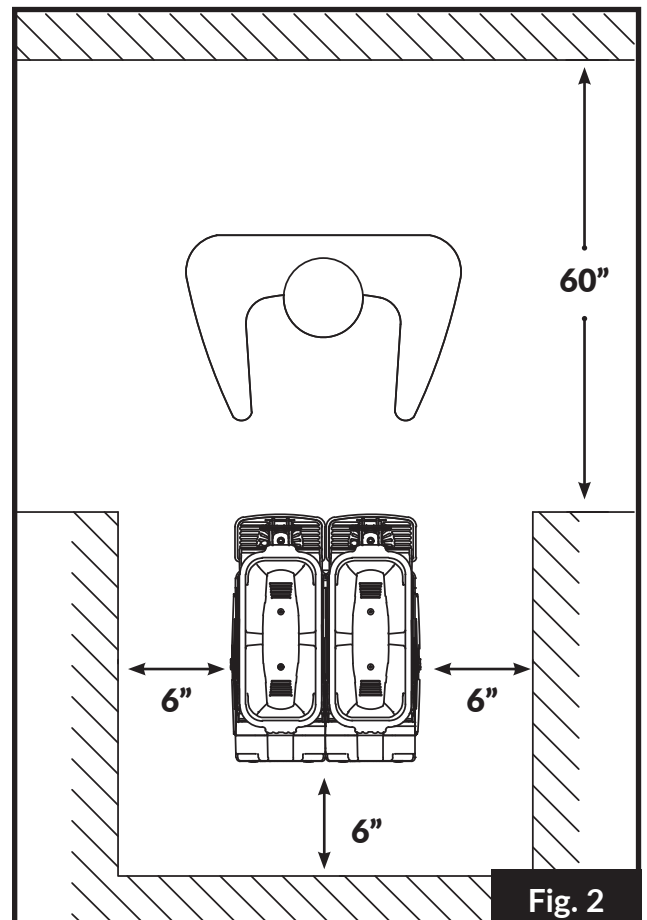

Fig. 2
2. For improved ventilation, maintain a distance of 6 in. between the unit and walls or other obstacles. Increase the distance if the obstacles are a heating source. (Fig. 2)
3. Leave 60 in. of free space in front of the machine to allow for easy use and maintenance. (Fig. 2)
4. Leave 10 in. of free space above the machine to allow for removal of lids. (Fig. 2)
Lack of air flow	Increase the distance between the machine and other obstacles/heating sources (see Fig. 2)